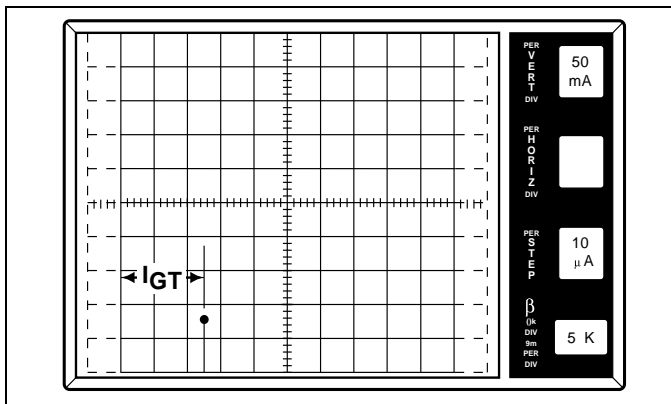

Figure 19.7  $I_{GT}$  is  $25\mu A$
- Gradually increase *Offset Multiplier* until device reaches the conduction point. (See Figure 19.7.) Measure  $I_{GT}$  by following horizontal axis to the point where the vertical line crosses axis. This measured value is  $I_{GT}$ .